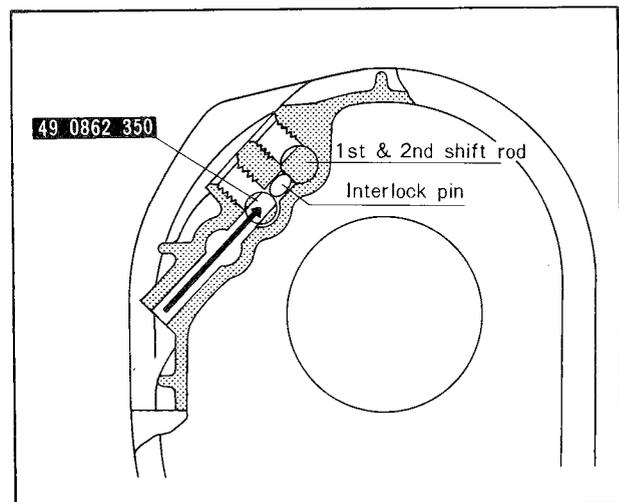

Fig. 7-23 Installing inter-lock pin (1)
25. Using the **shift fork rod guide** (49 0862 350) and **interlock pin installer** (49 0187 451A), insert the interlock pin, as shown in Fig. 7-23.